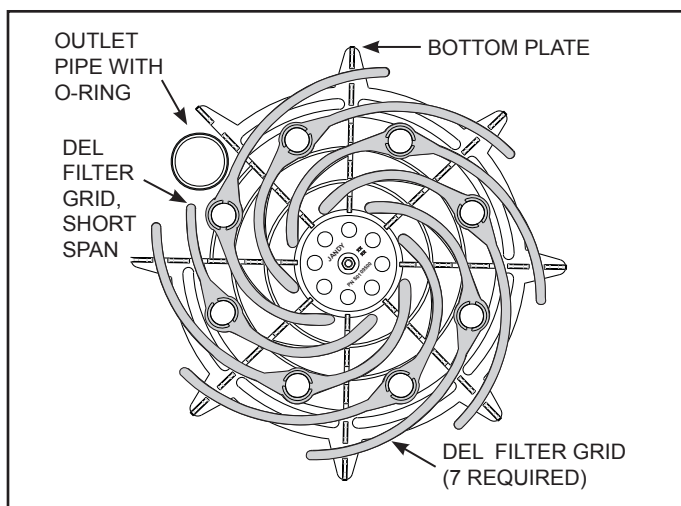

Figure 9. Filter Grid Arrangement
6. To reassemble the filter grid assembly, arrange the filter grids into position on the bottom plate, see Fig. 9. Use the plastic top spacer to hold the grids in place.